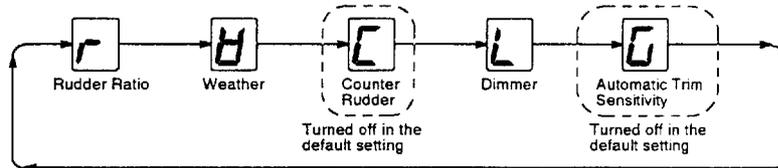

Fig. 4-1 Display for adjusting rudder ratio
1. Hold down  more than 2 seconds until the display of Fig.4-1 appears